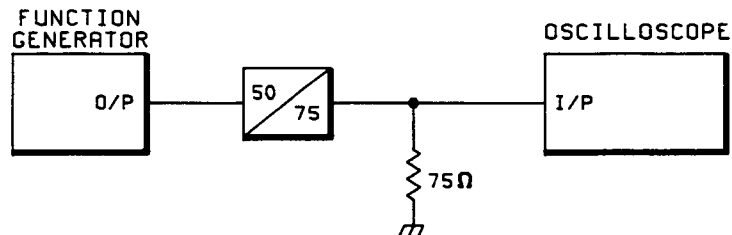

Figure 4-29 Digital Transmitter Ext Clock Input Set-up
2. Disconnect the Frequency Counter from the Function Generator and connect the equipment as shown in Figure 4-29.